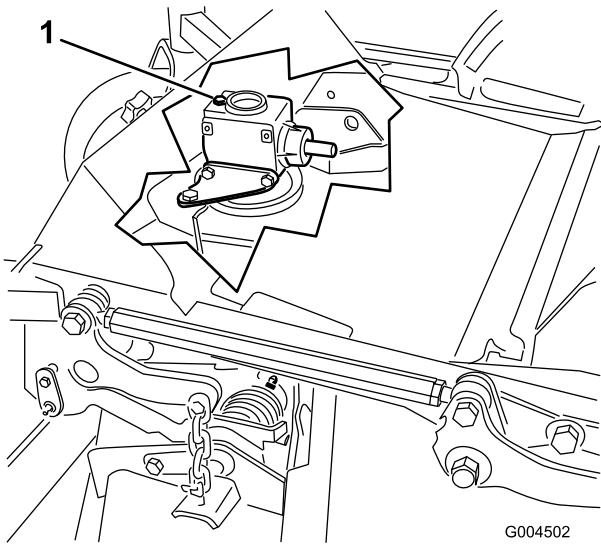

Figure 43
6. Remove the dipstick/fill plug from the top of the gear box (Figure 43) and make sure that the lubricant is between the marks on the dipstick.
6. Remove the dipstick/fill plug from the top of the gear box (Figure 43).